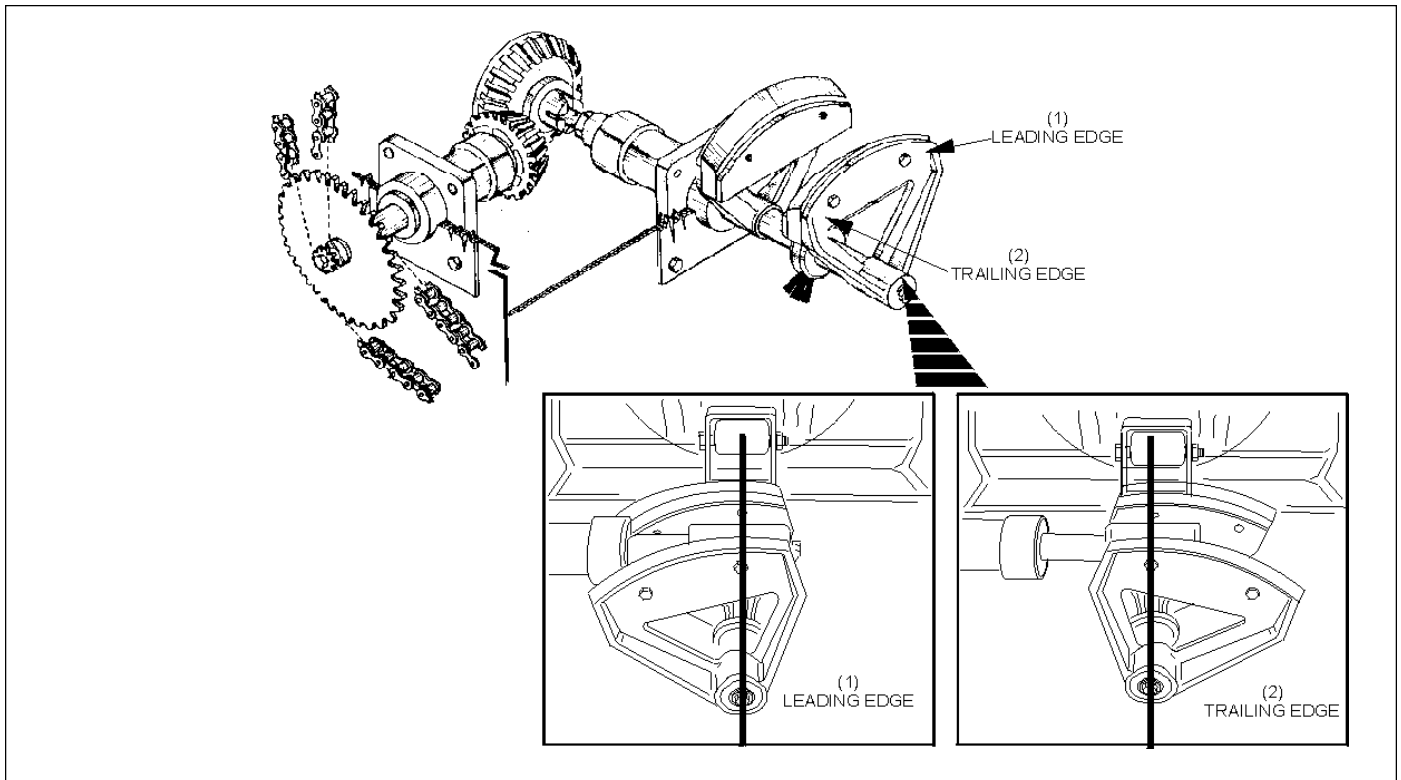

Figure 11. Oscillator Bumper Pad Adjustment
- Manually rotate the large pulley on the ball roller shaft until the oscillator bumper's leading edge is aligned with the center of the ball roller and buffing wheel. The leading edge is designated by the first screw head that will pass by the buffing wheel when rotated in the clockwise direction. Refer to *Figure 11*.